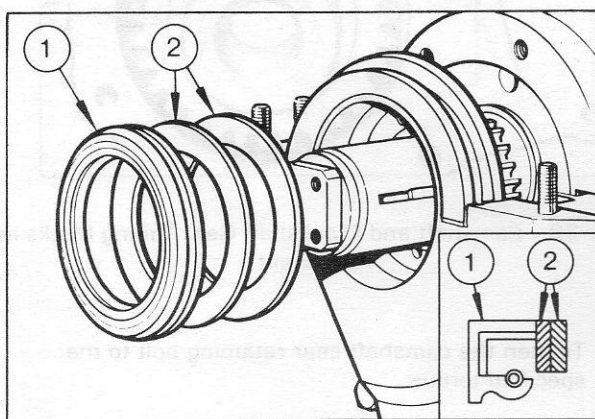

Fig. 39 - Assembling Crankshaft Pulley Oil Seal Into Timing Gear Housing Cover
39. After the timing housing cover has been installed and the Aligner Tool No. 10880 removed, check the crankshaft pulley hub outer diameter at the point where it runs in the front oil seal. If the seal is in contact with a highly polished ring, remove one or both spacers (one spacer only on the 4 cylinder engine) before installing the oil seal (Fig. 39). This will enable the seal to run on an unpolished part of the pulley hub. Failure to do this could result in an overheated seal and subsequent oil leakage.
40. Locate the oil seal, lipped edge inwards as shown in the insert of Fig. 39 and push it fully home using tool No. 10880. DO NOT use any sealant for this operation.